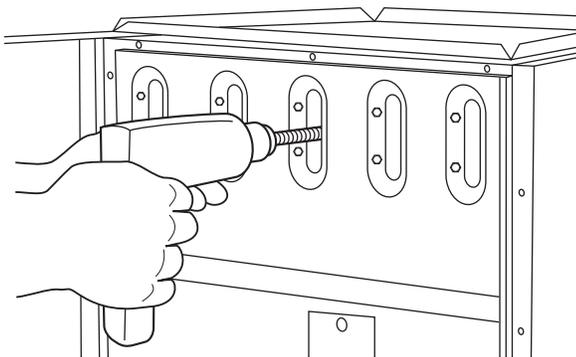

Fig. 49 – Cleaning Heat Exchanger Cell
- (2.) Insert brush end of cable into the outlet opening of cell and slowly rotate with drill. **DO NOT** force cable. Gradually insert cable into upper pass of cell (see Fig. 49).